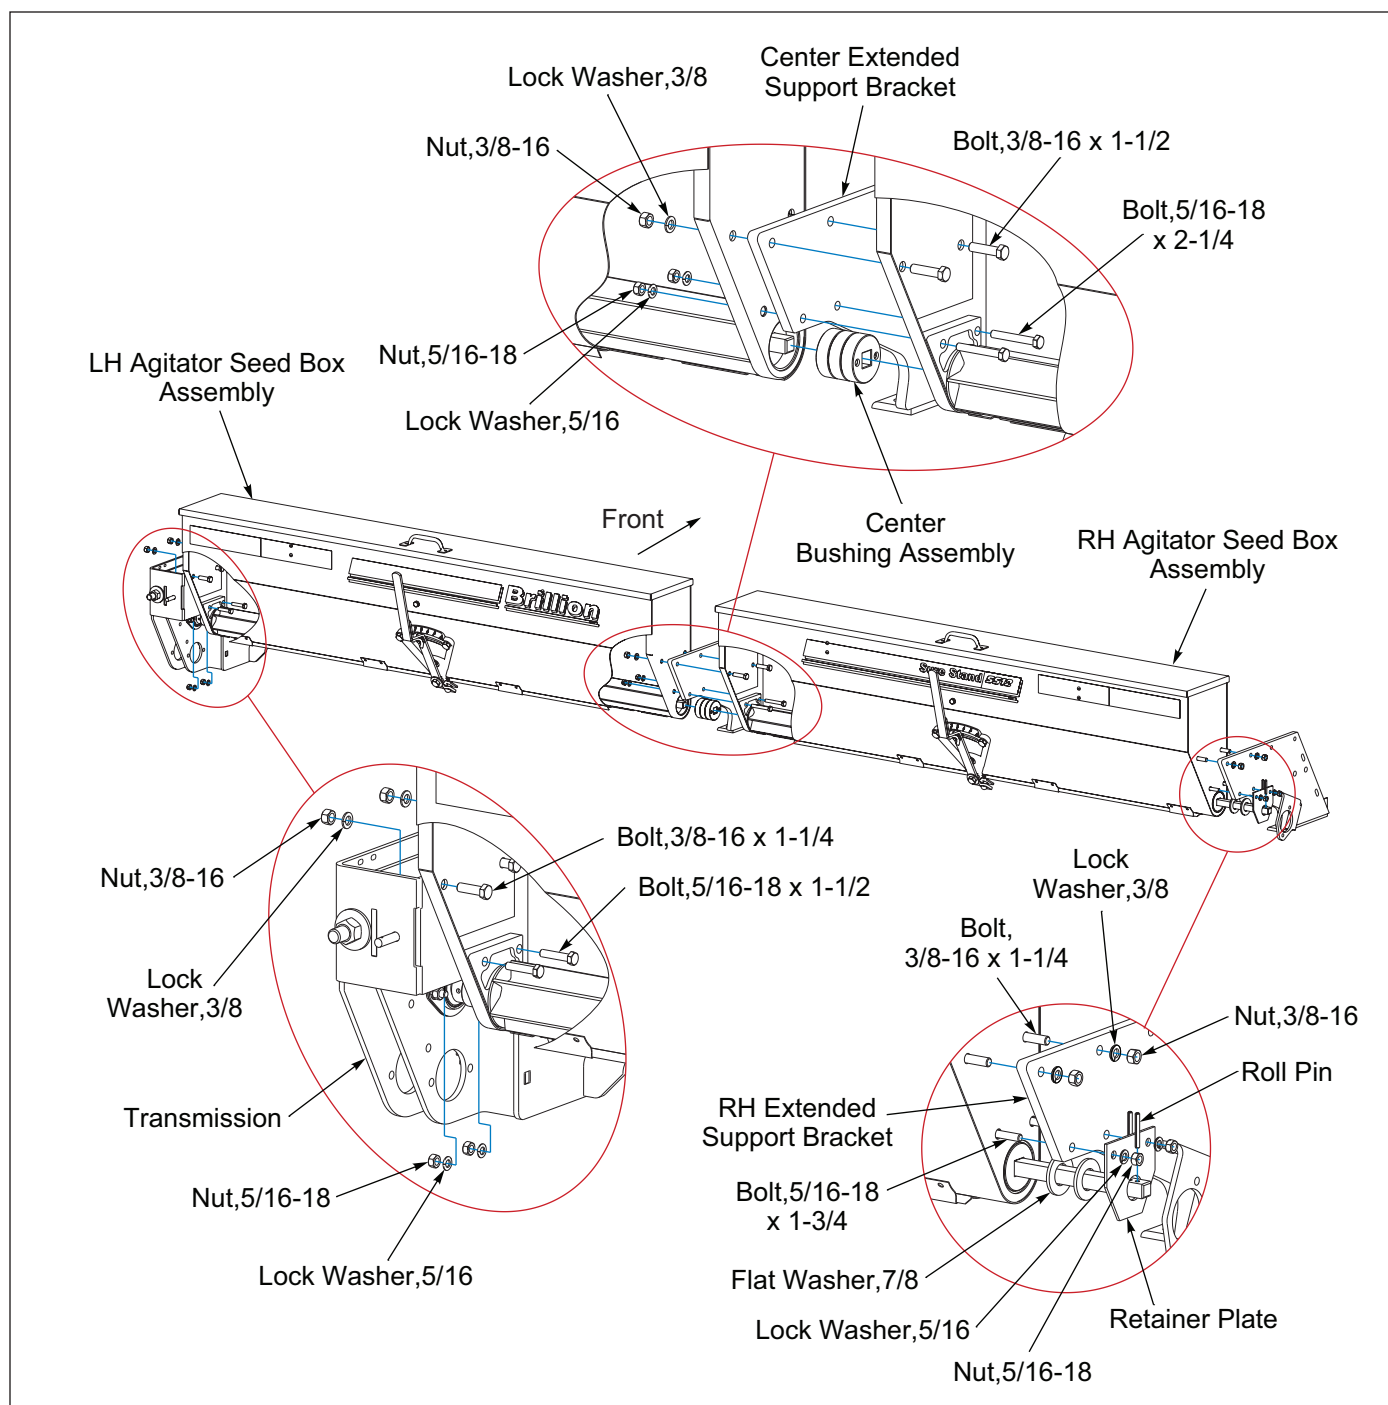

Figure 2-47: Left and Right Agitator Boxes
12. Assemble the LH Agitator Seed Box Assembly to the Transmission top holes with 3/8-16 x 1-1/4 Bolts and bottom holes with 5/16-18 x 1-1/2 Bolts. Secure with Lock Washers and Nuts. **See Figure 2-47.**
19. On the RH end of the RH Agitator Seed Box Assembly, place two 7/8 Flat Washers on the Agitator Shaft. **See Figure 2-47.**